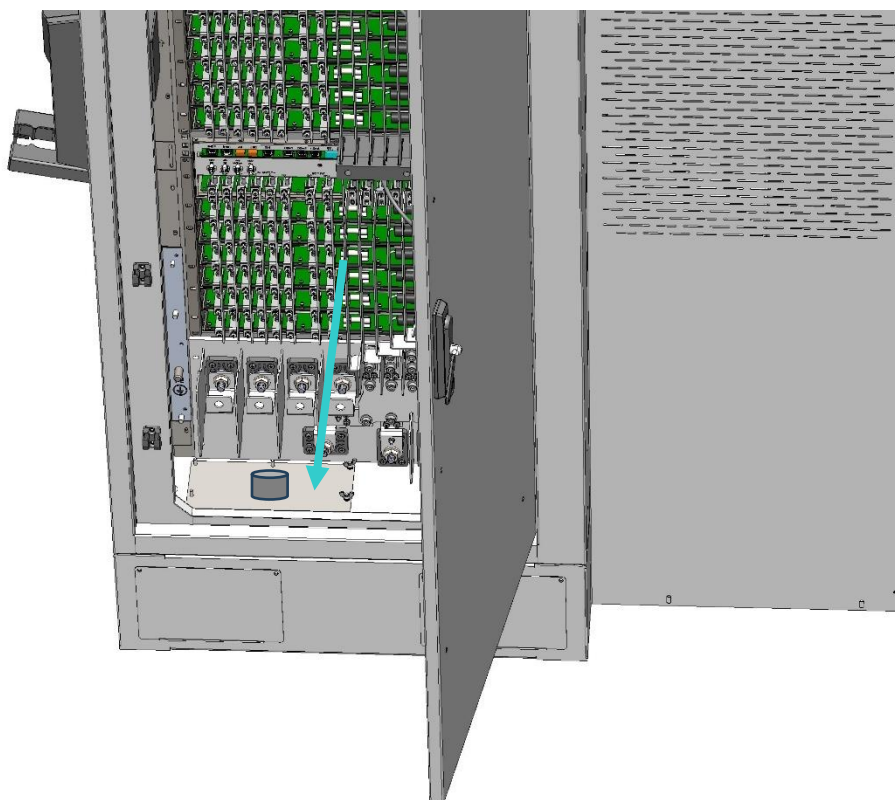

Figure 38 - Placement of Removeable Plate inside bottom of charger (optional Cable Gland not shown)
5. Inside the right-side door of the charger, slide the removeable plate (gasket-side down) over the AC power-in conduit/cable (Figure 38), taking care not to damage the gasket, and then lower the plate back onto the 8 small studs. We recommend using a cable gland (installer supplied), sized appropriately for the cable being fed through plate to complete this step OR using duct seal after re-securing plate to the charger in step 7.
6. Return the 8 sets of M5 wingnut, split washer, and flat washer to studs and hand-tighten to secure plate to charger (also Figure 38).